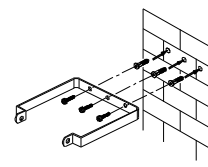

FIGURE 8
- 4) Remove the mounting bracket from the floodlight. Drill the wall and screw the bracket onto the wall using suitable wall plugs and screws (FIGURE 8).